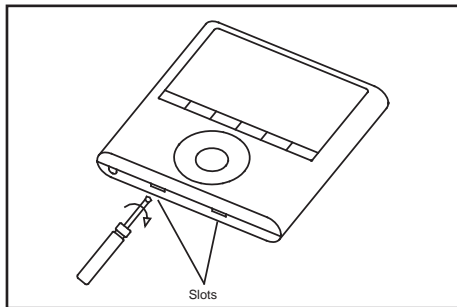

Figure 11. Remove Back Plate
1. Remove the controller from the back plate using a flat-head screwdriver. See figure 11.